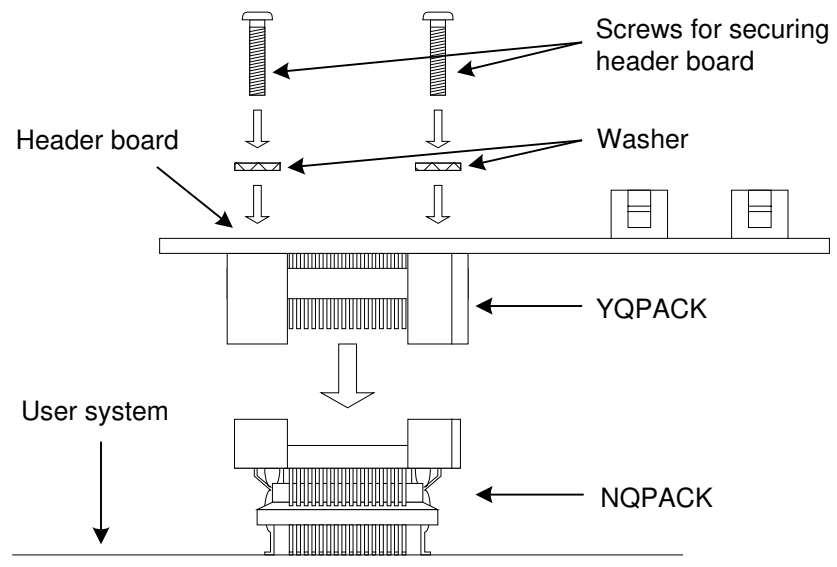

Figure 4 Header board connection
2. Insert each screw for securing header board in each of the four drilled holes on the header board (See Figure 4).